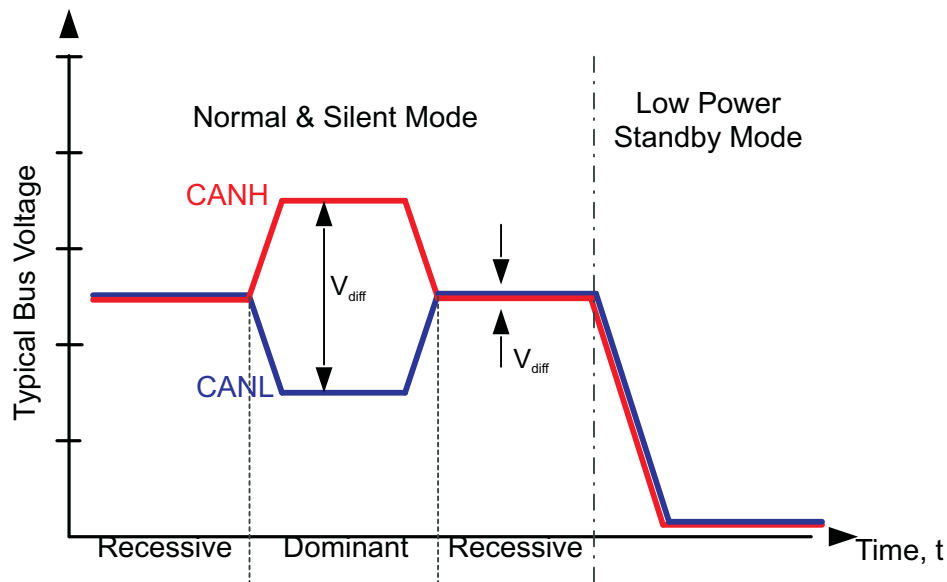
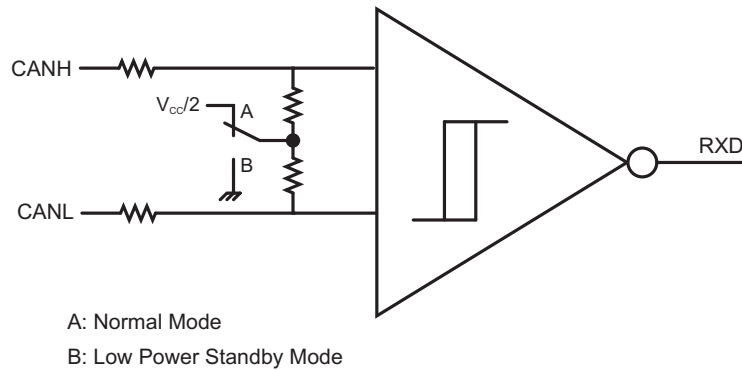

Figure 16. Bus States (Physical Bit Representation)
Figure 17. Simplified Common-Mode Bias and Receiver Implementation
Both of the supply pins have undervoltage detection, which places the device in forced standby mode to protect the bus during an undervoltage event on either the V_{CC} or V_{IO} supply pins. If V_{IO} is undervoltage, the RXD pin is forced to the high-impedance state and the device does not pass any wake-up signals from the bus to the RXD pin. Because the device is placed into forced standby mode, the CAN bus pins have a common-mode bias to ground, protecting the CAN network; see Figure 16 and Figure 17.
- (1) See Figure 16 and Figure 17 for common-mode bias information.
This is the low-power mode of the device. Standby mode is selected by setting STB high. The CAN driver and main receiver are turned off and bidirectional CAN communication is not possible. The low-power receiver and bus monitor, both supplied through the V_{IO} supply, are enabled to allow for RXD wake-up requests through the CAN bus. The V_{CC} (5-V) supply may be turned off for additional power savings at the system level. A wake-up request is output to RXD (driven low) for any dominant bus transmissions longer than the filter time t_{BUS} . The local protocol controller (MCU) must monitor RXD for transitions and then reactivate the device to normal mode based on the wake-up request. The 5-V (V_{CC}) supply must be reactivated by the local protocol controller to resume normal mode if it has been turned off for low-power standby operation. The CAN bus pins are weakly pulled to GND, see Figure 16 and Figure 17.
- (1) H = high level, L = low level, X = irrelevant, Y = common-mode bias to GND, Z = common-mode bias to $V_{CC} / 2$. See Figure 16 and Figure 17 for common-mode bias information.
(2) HVDA551 and HVDA553 have internal pullup to V_{IO} on the STB pin. If the STB pin is open, the pin is pulled high and the device is in standby mode.